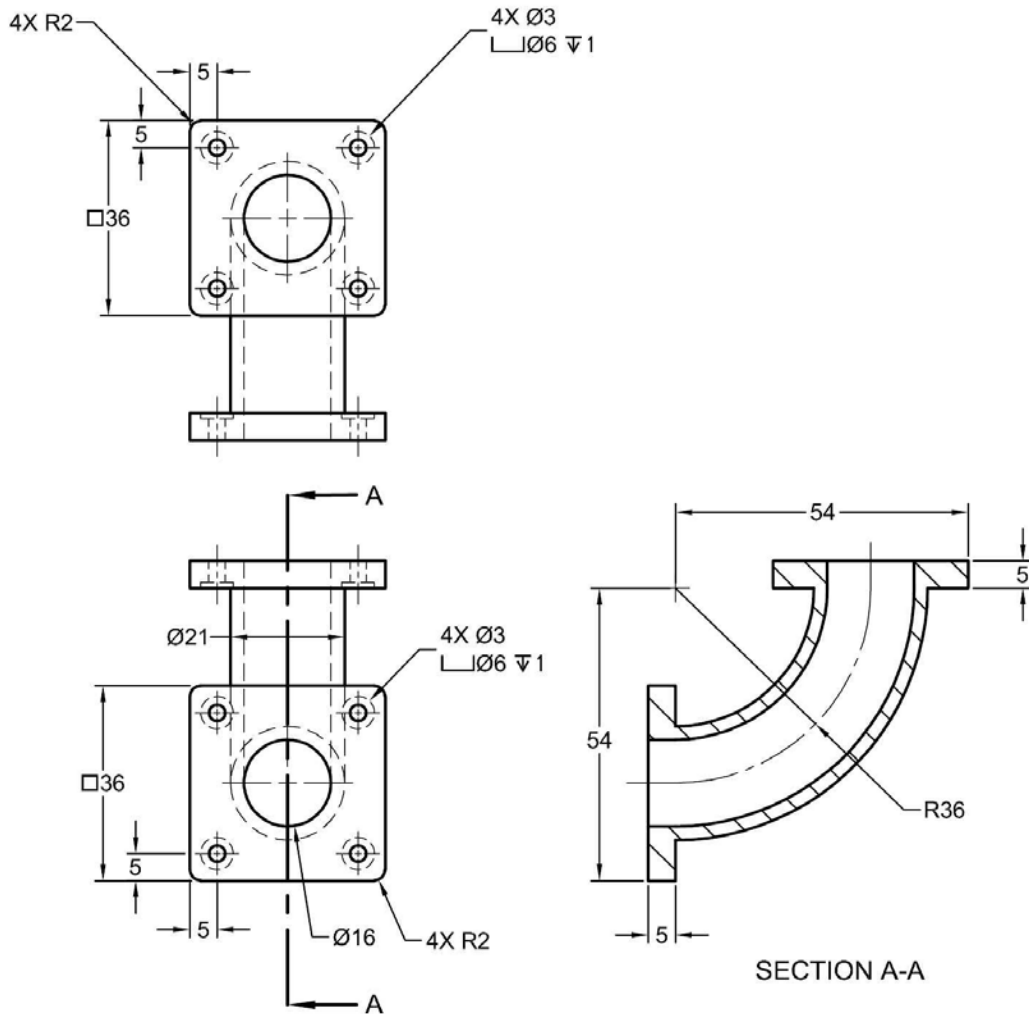
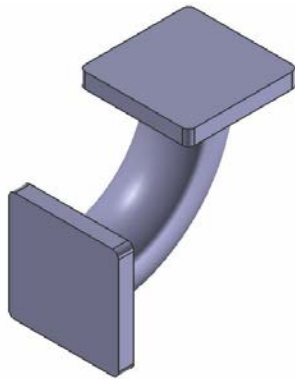
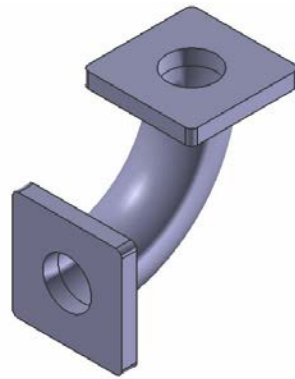
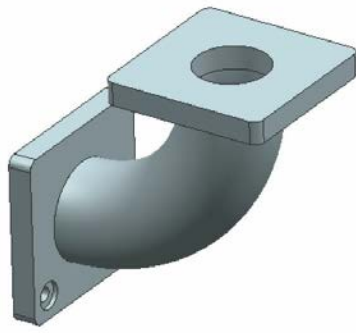

Figure 7-110 Views and dimensions of the model
Figure 7-115 Extruded join features created on the two end faces of the base feature
Figure 7-116 Model after creating holes
Figure 7-117 One of the counterbore holes created on the front face of the model
- Create extruded join features on the end faces of the sweep feature and then create holes on them, refer to Figures 7-115 and 7-116.
- Create the counterbore hole on one of the extruded features and then create the rectangular pattern of holes, refer to Figure 7-117.
1. Create the extruded join features one by one on the two end faces of the base feature, as shown in Figure 7-115. Note that you need to reverse the direction of the feature creation. For dimensions, refer to Figure 7-110.
2. Create simple holes at the center of the extruded join features. Note that the holes need to be created only up to the back faces of the extruded features. For diameters of the holes, refer to Figure 7-110. Figure 7-116 shows the model after the holes have been created.
1. Create the counterbore hole on the lower right of the back face of the front extruded feature of the model. The rotated view of the model after creating the hole is shown in Figure 7-117. For dimensions of the counterbore hole, refer to Figure 7-110.